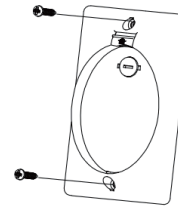

Fig. 24
Step 1. Select a location to install your handset control holder, install the holder as shown. (Fig. 24)